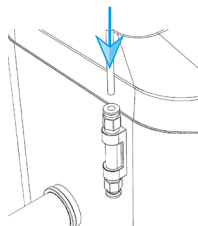

Figure 2
04. Install the Teflon tube. Please note that the Teflon tube must be inserted to the bottom of the pneumatic joint, otherwise the filament will not be able to pass through the Teflon tube to reach the hot end smoothly. The specific operation is shown in Figures 2 and 3 below.